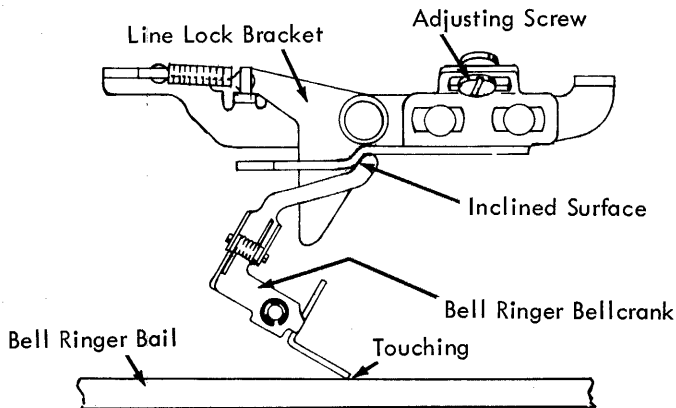

FIGURE 254. Line Lock Bracket
9. Line Lock Bracket Adjustable Plate (Fig. 254) - Position, with the carrier in the next to last space, to a point where the inclined surface just begins to deflect the bell ringer bellcrank.